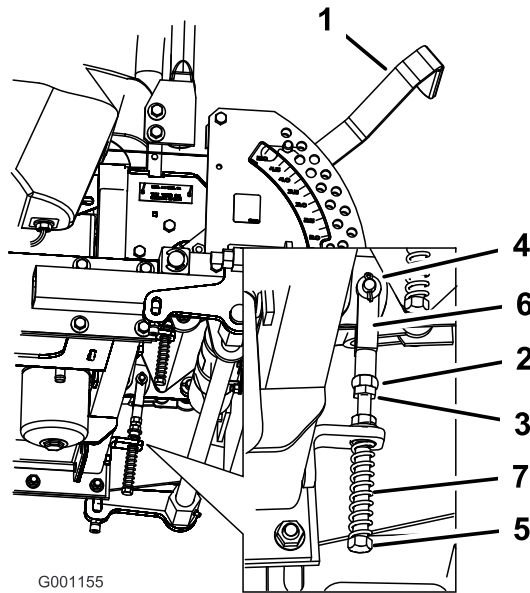

Figure 75
8. If adjustment is needed, loosen the nut and jam nut against the yoke (Figure 75).
9. Apply slight rearward pressure on the motion control lever, turn the head of the adjustment bolt in the appropriate direction until the control lever is centered in the neutral lock position (Figure 75).
10. Tighten the nut and jam nut (Figure 75).